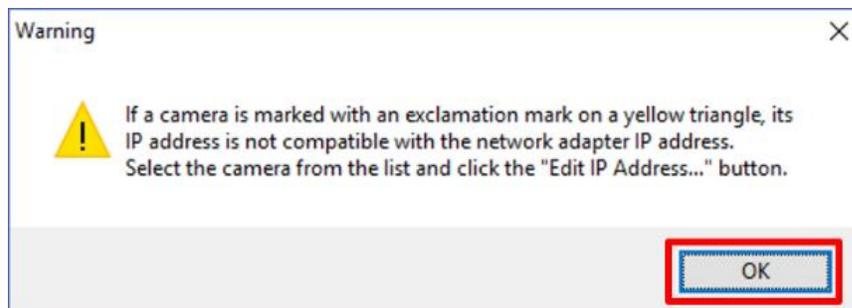

Fig. 14: IP address warning indicating incompatibility between the camera and the computer's network adapter IP address.
- 12) The same "Warning" message as in **Step 5)** (**Fig. 14**) may appear. If it does, click "OK". After a few seconds of reconfiguring, you will return to the "Open Cameras" window. The warning symbol should no longer be there. If so, click "Open" and a window will indicate that the software is initializing.